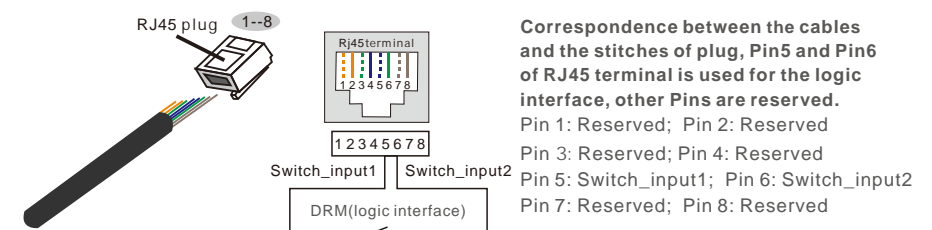

Figure 4.12 Strip the insulation layer and connect to RJ45 plug
2. Use the network wire stripper to strip the insulation layer of the communication cable. According to the standard line sequence of figure 4.12 connect the wire to the plug of RJ45, and then use a network cable crimping tool to make it tight.